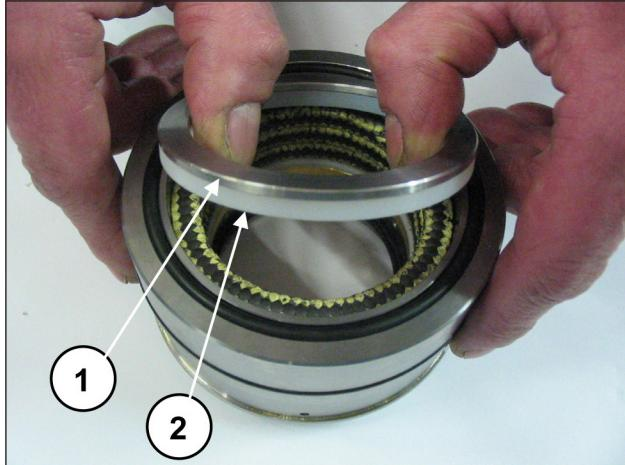
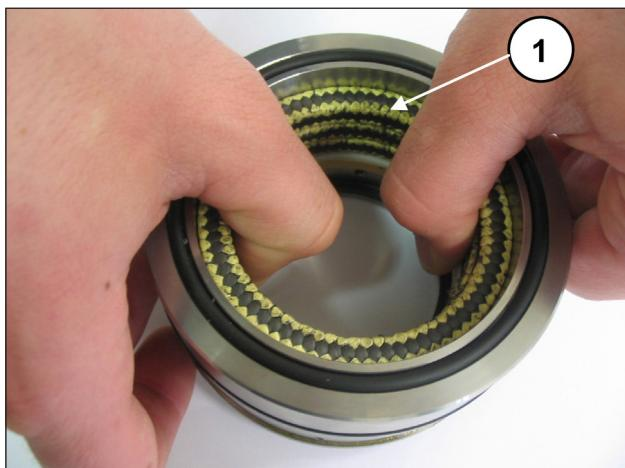

Fig. 193
Fig. 194
Separate the seal support from the liner, remove the spring ring and scraper ring (pos. ①②, Fig. 193) to access the pressure seals (pos. ③, Fig. 194).